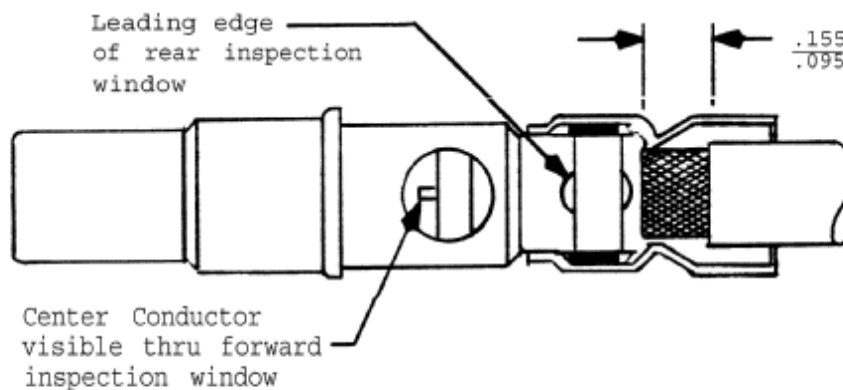

FIGURE 5
- 5.2.1 Slip the contact carefully over the end of the prepared cable, and gently push the contact onto the cable until the shield braid leading edge is lined up with leading edge of the rear inspection window as shown in Figure 5.
- 5.2.2 Inspect for proper insertion (see Figure 5).
The distance from the rear of the contact body to the cable jacket insulation should be as shown on Figure 5.